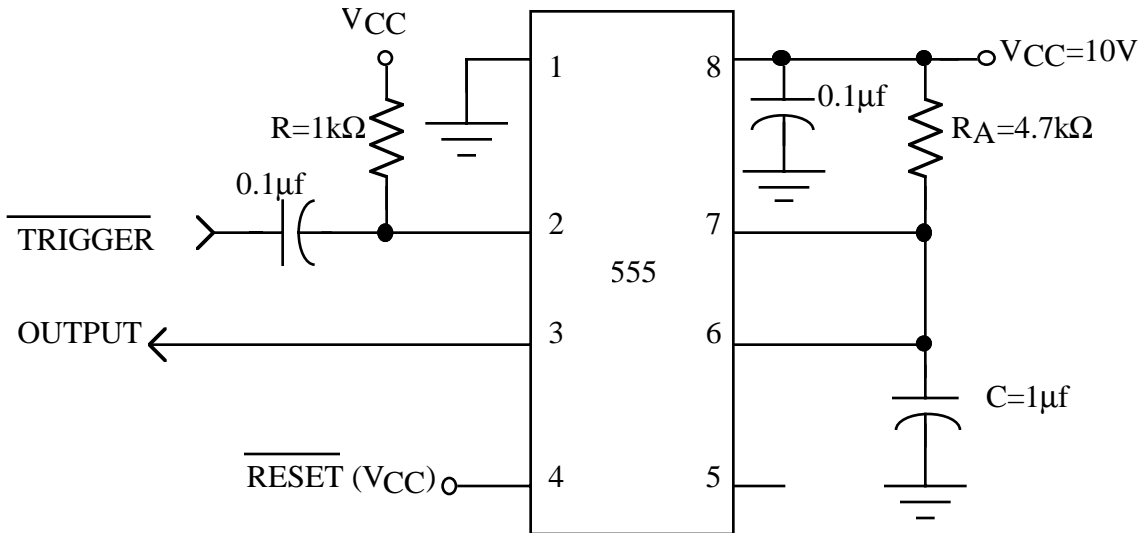

Figure 4. 555 monostable
A one-shot is a device which, in response to a short trigger pulse, produces a longer pulse. These circuits have important applications in digital circuits where they can provide signal delays and can “stretch” very short pulses into longer pulses to operate computer logic more reliably. These circuits also have important applications in digital communications, biomedical engineering, and any other application where you need to clean up a digital signal in the presence of noise. A typical one-shot circuit using the 555 is shown in Figure 4.
There is also a RESET\* input which can override the TRIGGER\* and THRESHOLD inputs to the chip—we will not use this feature in this lab. The trigger pulse must be shorter than the desired  $t_H$ . The technique used in Figure 4 to trigger the 555 is described in the Phillips Semiconductor data sheets. The resistor R and the 0.1μf capacitor at the
1. Construct the 555 monostable shown in Figure 4. Drive the trigger input (Pin 2) with the H-P function generator. Adjust the generator output for a 4% duty cycle (a very narrow pulse) at about 100 Hz. See the note below for how to do this!